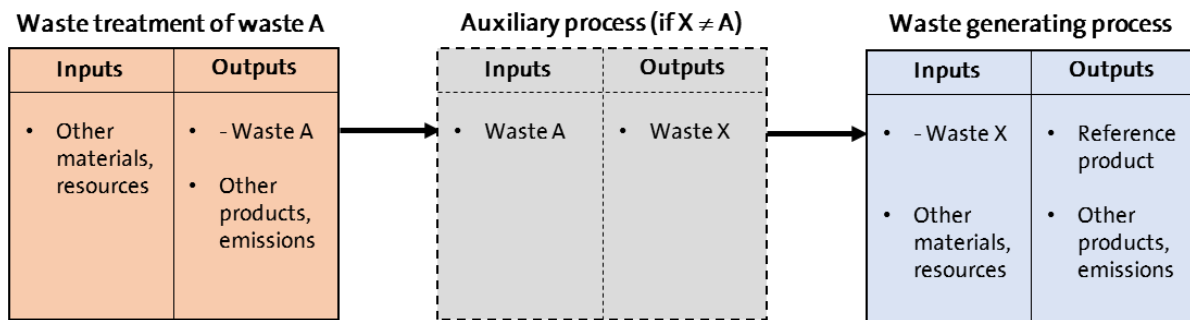

Figure 13. Connection of wastes to the correspondent waste treatment if they are not considered as valuable substance by any process using ELCD 3.2 in openLCA.
- **Wastes which can be considered either as wastes or as by-products** (i.e. they are valuable substances for other process), can be linked to the waste treatment if necessary by selecting the check box “avoided product” in the process generating them (Figure 13). That way, the software will consider them as negative inputs, and consequently the results will be equal as in the previous case. Unfortunately, it is currently not possible to set a default provider for avoided products, so the waste treatment should be linked/checked in the model graph.